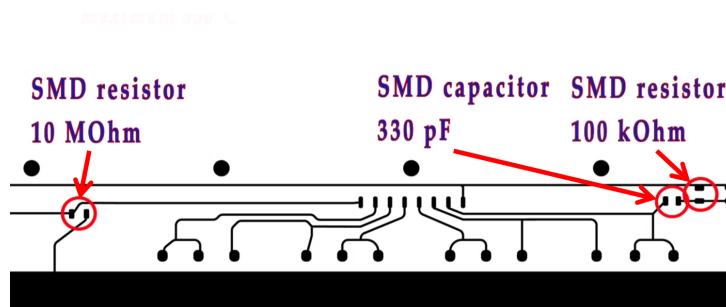

Figure 21: Positioning of the SMD components on the drift board.
Step 7: The location of each components is shown on Fig. 21.